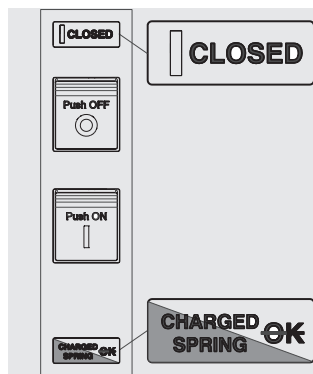

Figure 83
4. Circuit-breaker closed with springs charged and not ready to close (see Figure 83). This state occurs when after closing (see step 4 - Manual operations for opening and closing the circuit-breaker) the springs are recharged manually or automatically by the gearmotor (if provided).